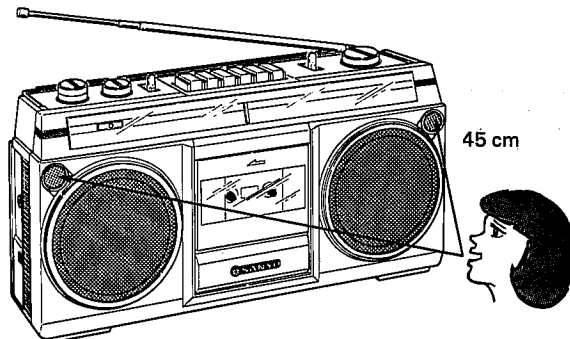

Fig. 8
2. Speak in a normal voice at a distance of approximately 45 cm away from the unit (Fig. 8).